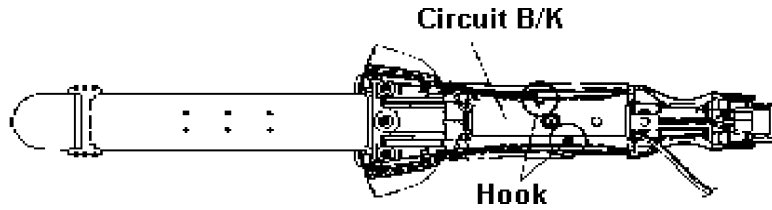

Figure 9
5. Remove Circuit B/K from 2 Hooks of Steam pipe holder A as shown in Figure 9.